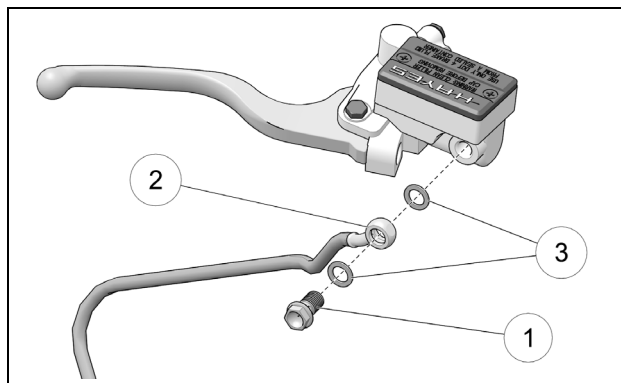

Figure 32
- Insert banjo bolt (1) in end of brake line (2) making sure to install the copper crush washers (3) against both sides of the brake line banjo end. See Figure 32.